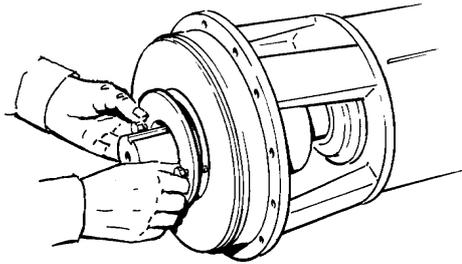

Fig. 4
5. **5R, 5F and 6F:** Use the cartridge locating tool (same for bearing assemblies 5R and 5F). Attach it to the cartridge using two screws, see Fig. 4.
3. Screw the cartridge tool onto the shaft sleeve and attach it to the seal housing using two screws, see Fig. 4. Depending on the seal type, it may be necessary to remove a spring or spacer before attaching the tool.
3. Screw the cartridge tool onto the shaft sleeve and attach it to the seal housing using two screws, see Fig. 4.